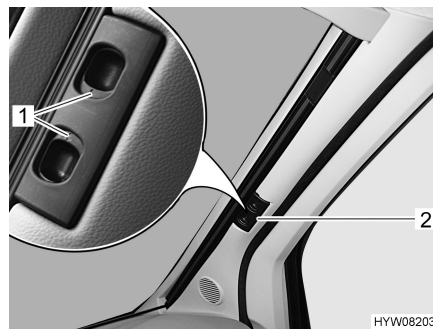

Fig. 17 Roman shade for the windscreen
- Press the release handles (Fig. 17,1) and hold them down.
- Use the handle (Fig. 17,2) to pull the Roman shade for the windscreen towards the centre of the window.
- Use the handle (Fig. 17,2) to pull the two halves of the Roman shade for the windscreen outwards as far as they will go.
- Let go of the release handles (Fig. 17,1) and let them engage.